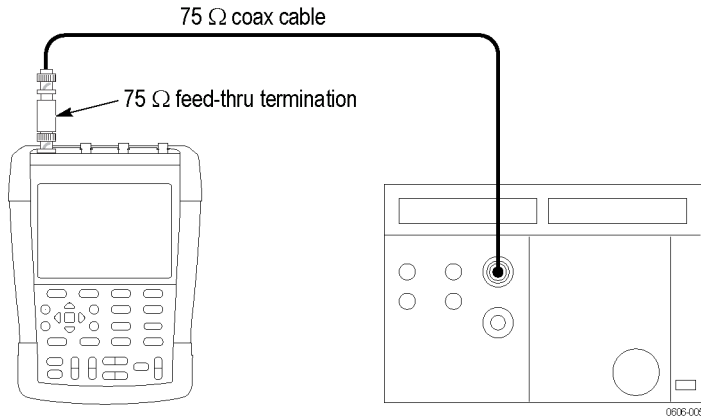

Figure 9: Video trigger test setup
1. Connect the test setup as shown. (See Figure 9.)